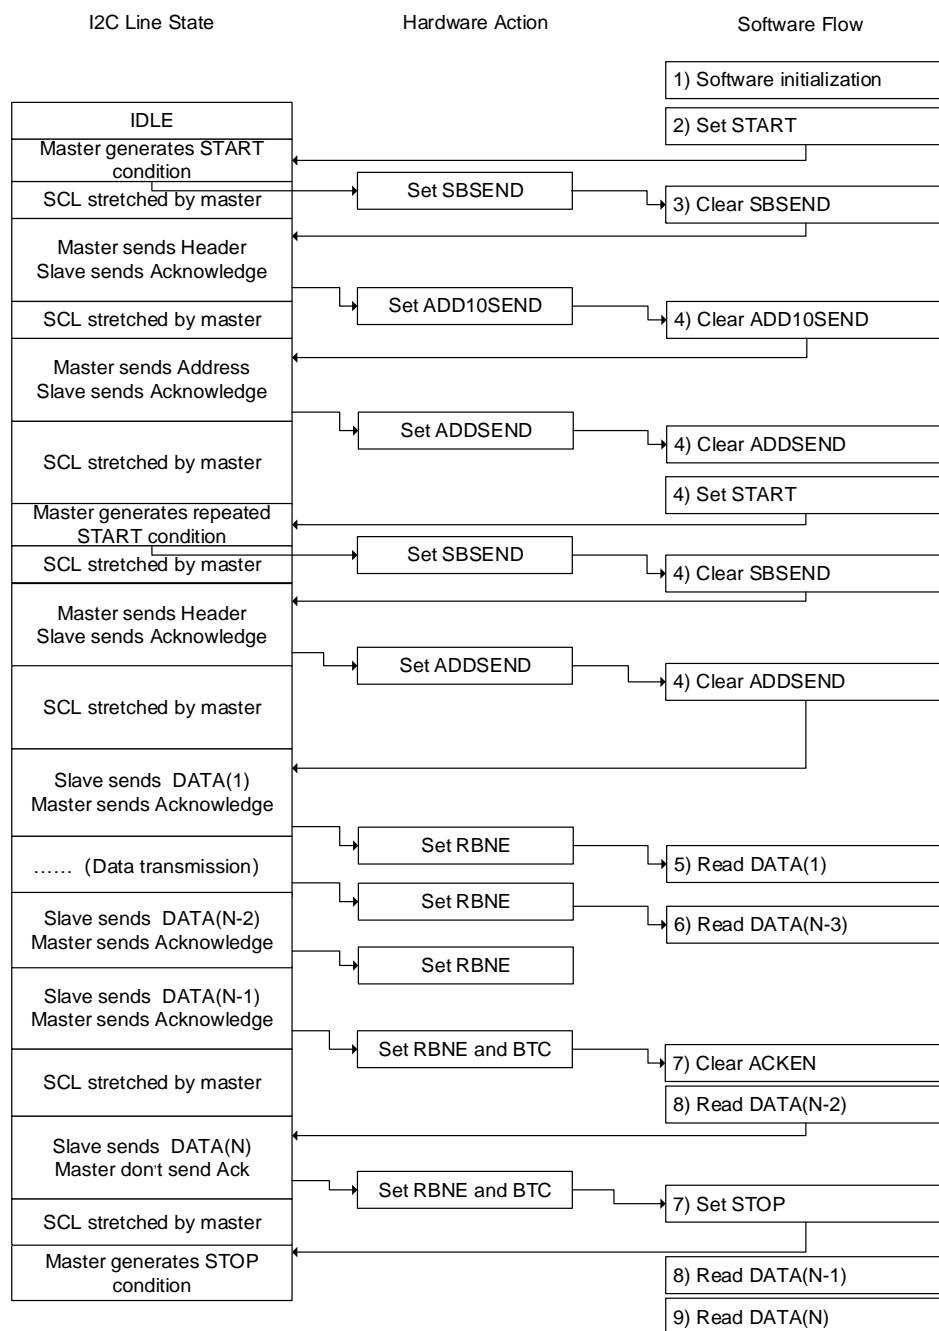

Figure 118 Programming model for master receiving mode using solution B(10-bit address mode)
6. Any time RBNE is set, software can read a byte from I2C_DATA until the master receives N-3 bytes. As shown in Figure 118 Programming model for master receiving mode using solution B(10-bit address mode), the N-2 byte is not read out by software, so after the N-1 byte is received, both BTC and RBNE are asserted. The bus is stretched by master to prevent the reception of the last byte. Then software should clear ACKEN bit.